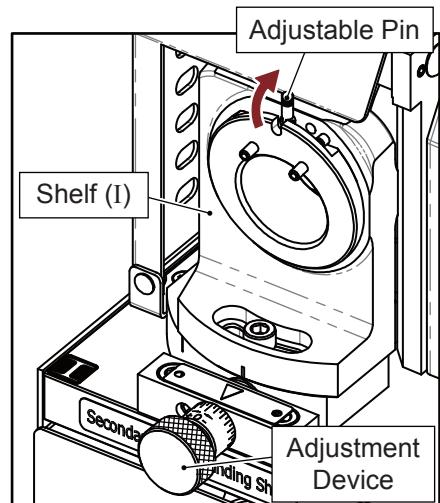

Fig. 7-1
1. Secondary Relief Grinding Shelf (I) (Fig. 7-1)
- ① Move the adjustable pin on Shelf (I) from the bottom to top.
- ② Adjust the Cutting face adjustment device to "0", after finishing the whole sharpening procedure, then adjust this device according to your needs. (See chapter "XIV. The use of the Cutting Face Adjustment Device")